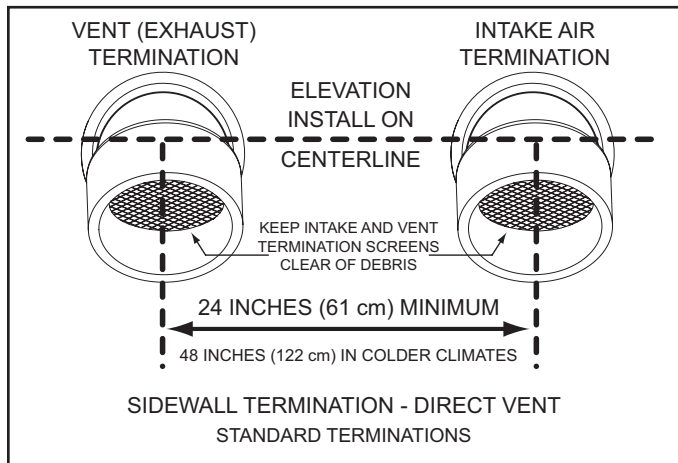

Figure 22
- If installing both an intake air and vent termination in a Direct Vent configuration through a sidewall there must be a minimum of 24 inches (61 cm) separation, measured on vertical center line, between the intake air and vent terminations, see Figure 22.
- If installing both intake air and vent terminations in a Direct Vent configuration through a sidewall the intake air and vent terminations must be installed at the same elevation measured on horizontal center line - see Figure 22.
However, the distance between the closest vent and intake air terminations must be a minimum of 24 inches (61 cm). In colder climates this separation should be increased to at least 48 inches (122 cm). See Figure 22.